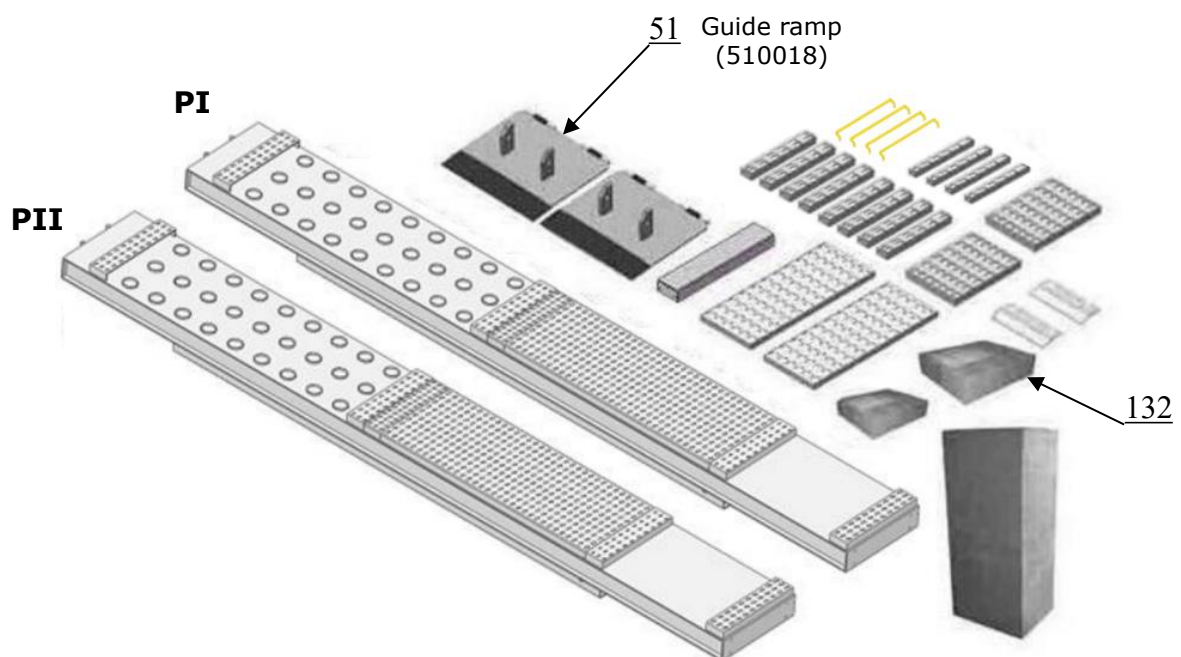

Fig. 9
2.2 Parts for lift of flush mount installation (**See Fig.9**)